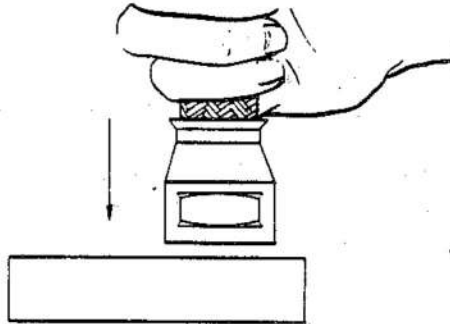

Fig.3 Loosening the 'SuperGem' socket
(1) Loosen the socket (see fig. 3). Hold the hose firmly and tap the socket sharply on a flat wooden surface. Ease the socket back along the hose to expose the hose end and nipple sleeve.